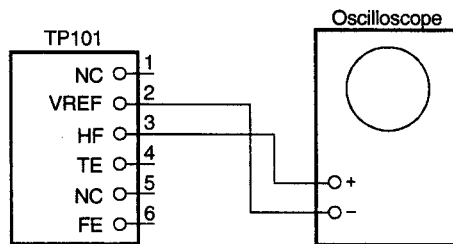

Fig2
7. Turn SELECT knob clockwise again. The display shows " 0 3 " and "HF Signal". At this mode, HF signal can be observed with connection below (Fig2). To start measuring, press the SELECT knob. ("HF Signal" is indicated when TR servo on)